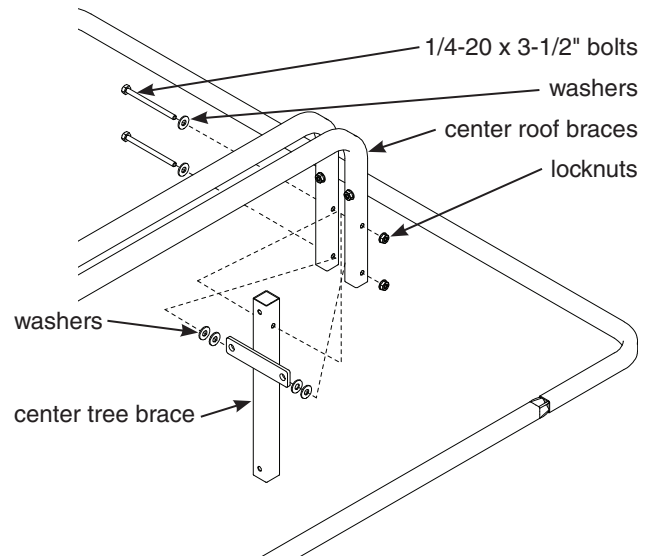

FIGURE 2
3. Attach the center tree brace (A718) in between the center roof braces using (2) provided 1/4-20 x 3-1/2" bolts, locknuts and (6) 1/4" washers. **SEE FIGURE 2.**